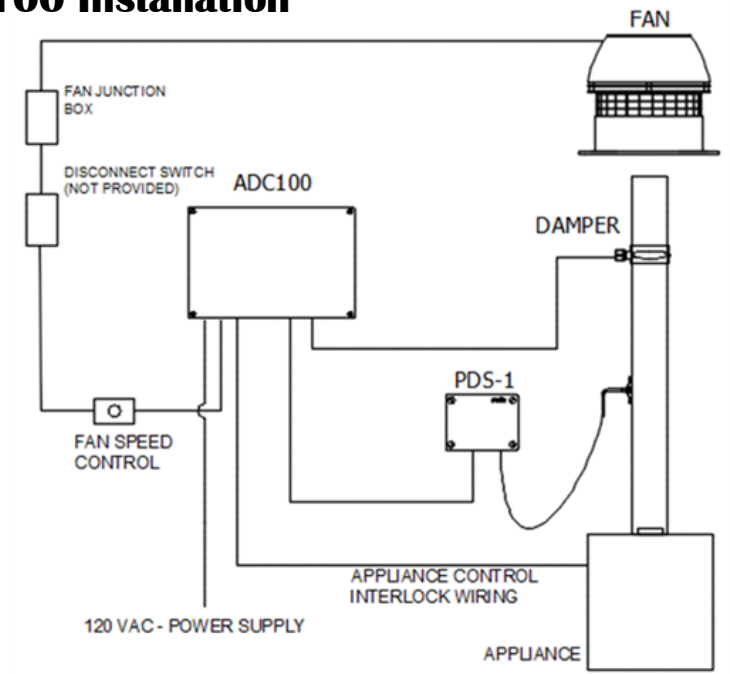

FIGURE 40
1. The ADC100 Control Unit must be installed indoors. As shown in **Figure 40**, the control will be wired directly to a 120/1/60 VAC power supply. The control will also be connected to the fan, appliance, and damper.
2. The ADC100 control may be mounted directly to a wall. To mount, remove the cover and locate the (4) mounting holes. Using the hole-pattern shown below, mount the control using #6 screws.